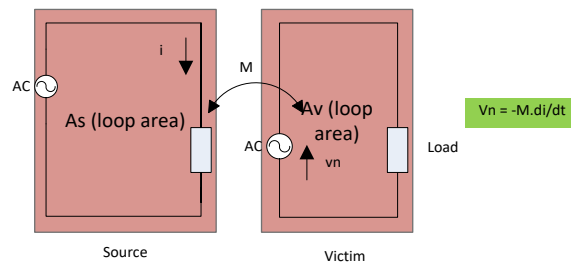

Fig 2
- **To minimise  $M$ , the mutual inductance, reduce the loop areas of both the source ( $A_s$ ) and victim ( $A_v$ )-see figure 2.**